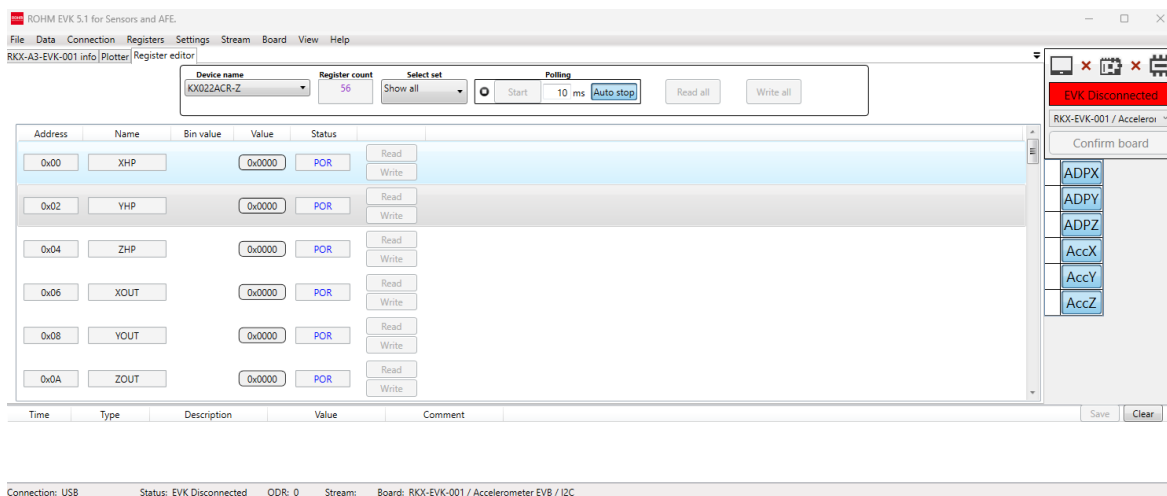

Figure 8 ROHM EVK GUI register editor tab
- Click "Register editor" tab and select the ROHM product, (Figure 8) which is on the EVB, from the "Device name" pull-down menu.
- Register editor tab. (7.6) (Figure 8)